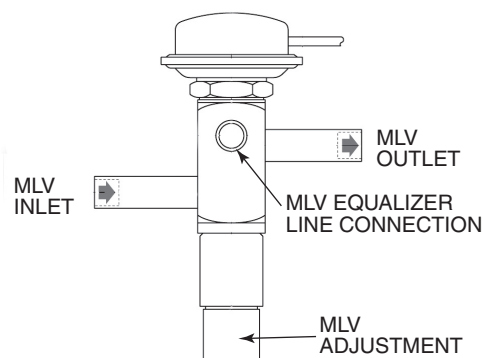

Fig. 1 — Minimum Load Valve (MLV) Connections
The minimum load valve (MLV) of the hot gas bypass accessory limits the amount of refrigerant which can be bypassed from the condenser without impacting oil return. See Fig. 1.
- Minimum load valve, part no. EA52DS422 1/2-in. ODF (outside diameter, female) copper connection (see Fig. 1)
4. **30RAP:** Connect the MLV equalizer line to the stub on the suction line. Cut the line and install the 1/4-in. copper coupling to create a through connection. Use this open connection to connect the MLV equalizer line using 1/4-in. OD copper tubing. See Fig. 1, 2, 3, and 7.
30MPA and 30MPW: Connect the MLV equalizer line to the tee in the TXV equalizer for 30MPW016-045. Cut the line and install the 1/4-in. copper coupling to create a through connection. Use this open connection to connect the MLV equalizer line using 1/4-in. OD copper tubing. See Fig. 1, 4, and 8. For 30MPA and 30MPW050-071, connect the MLV equalizer line to the tube stub in on the suction line.
The MLV responds to changes in suction pressure. See Fig. 1. When the evaporating pressure is above the valve setting, the valve remains closed. As the suction pressure drops below the valve setting, the valve responds and begins to open. The valve opens in proportion to the change in suction pressure. As the suction pressure continues to drop, the valve continues to open until the limit of the valve stroke is reached.